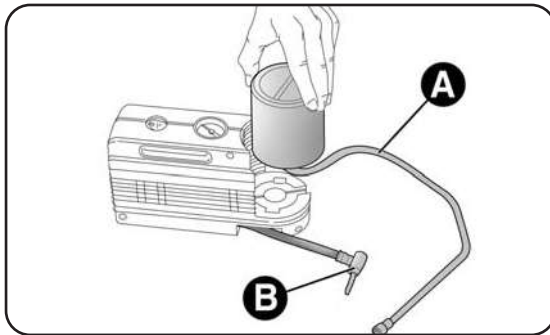

fig. 7
- disconnect connection A - fig. 7;